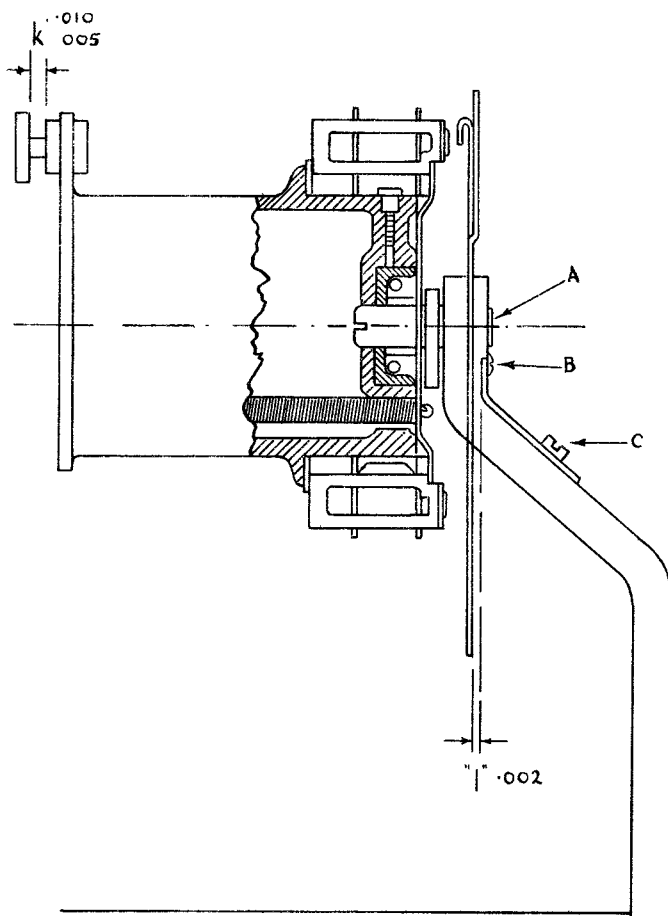

FIG. 3
5. ADJUST DIMENSION "k" BY SCREW A. CLAMP BY SCREW B. (FIG 3)
8. ADJUST RIBBON JUMPER STEADY PLATE (FIG 3) TO SATISFY DIMENSION "l" USING SCREWS C. REPLACE RIBBON JUMPER IF THIS IS BENT